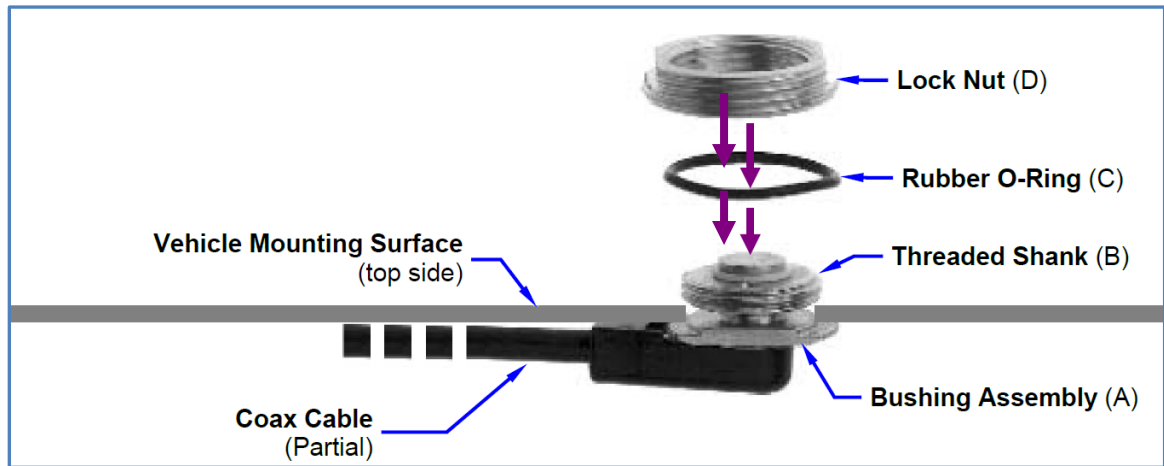
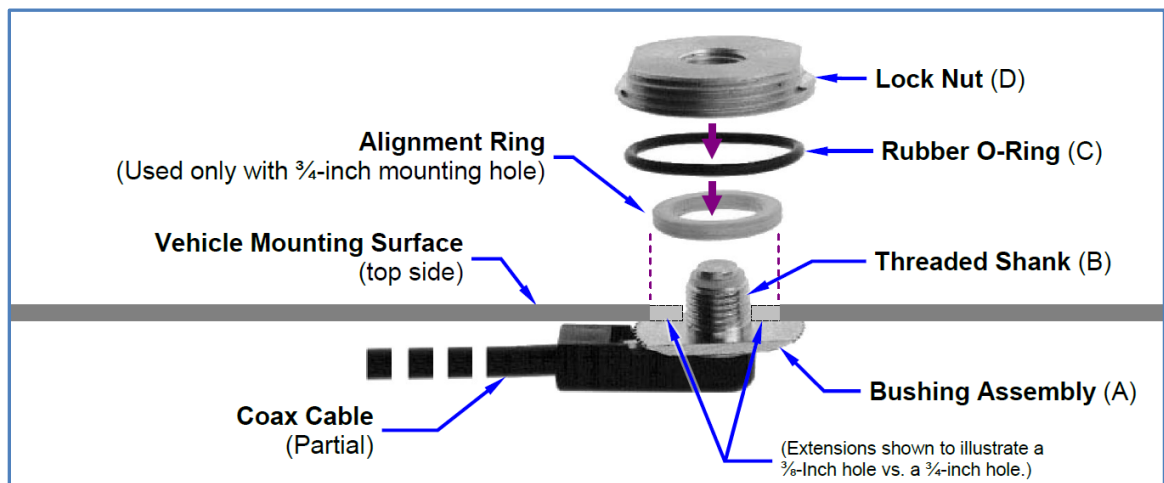

Figure 5-2: Installing a Standard $\frac{3}{4}$ -Inch NMO Antenna Mount (e.g., AN-125001-001 or AN-125001-002)
Figure 5-3: Installing a Thick-Roof NMO Antenna Mount (e.g., AN-125001-003 or AN-125001-004)
11. As illustrated in Figure 5-2 and Figure 5-3, add the O-ring (C) and lock nut (D) to the top of the mount's bushing assembly (A). With the O-ring in the groove in the underside of the lock nut, thread the lock nut onto the bushing assembly. Be sure the O-ring remains in the groove before tightening the lock nut.
2. Place the gasket included with the antenna element (not pictured in Figure 5-2 or Figure 5-3) around the mount and against the surface of the vehicle. If a lubricant or sealant was included with the gasket, apply it to the gasket before placing the gasket.